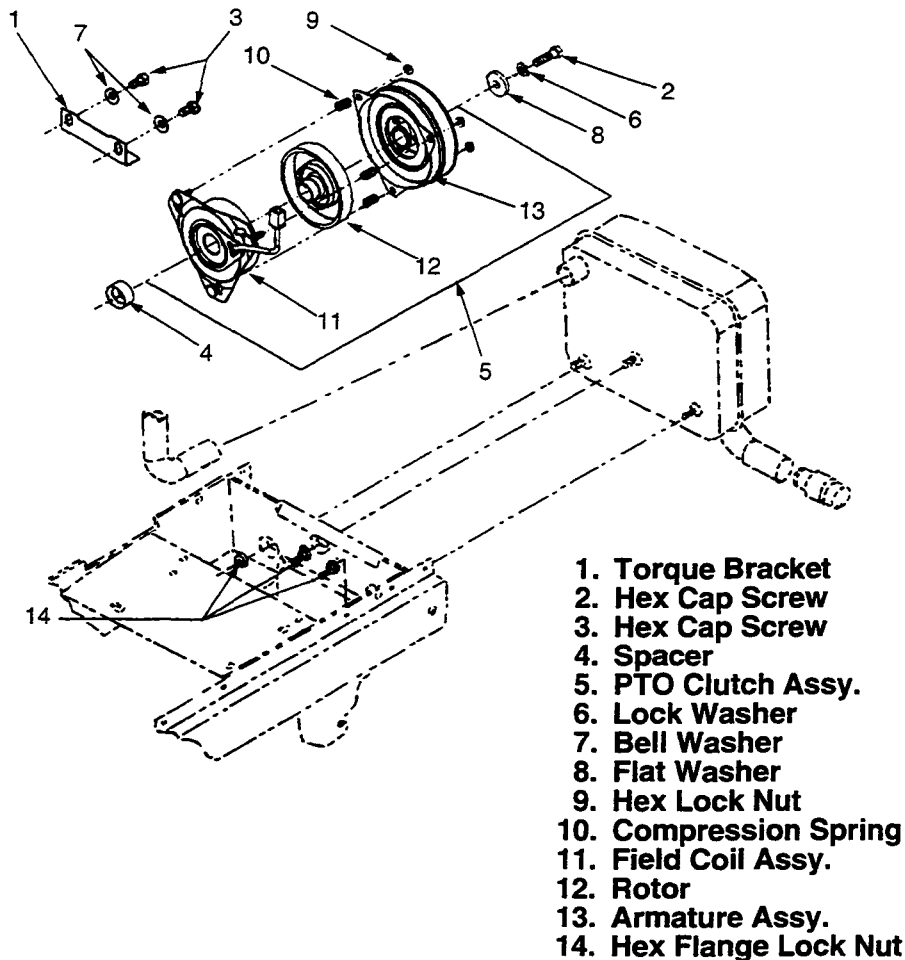

Figure 5-7. PTO Clutch (Models 2160, 2165 and 2185).
3. Remove the hex flange lock nuts (14, Fig. 5-7) securing the muffler to the tractor frame and remove the muffler.
4. Remove the PTO clutch assy. (5) from the engine crankshaft by removing the hex cap screw (2), lock washer (6), and flat washer (8). Note the position of the electrical lead wires before removing the clutch assy.
5. Slide the spacer (4) off of the crankshaft. Note the position of the beveled I.D. of the spacer.
6. Remove the torque bracket (1) from the engine by removing the hex cap screws (3) and bell washers (7).